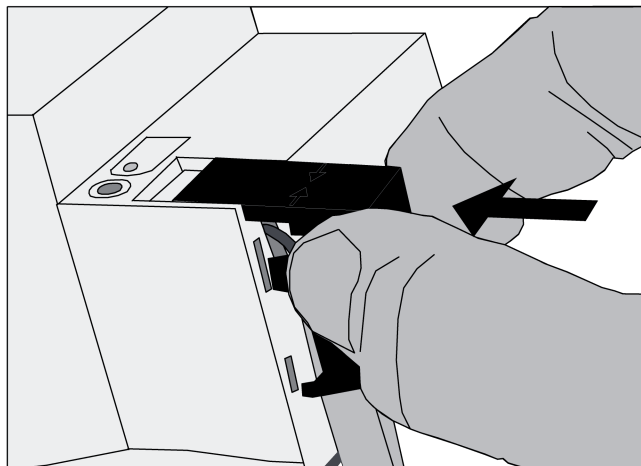

Figure 5: Installing the cover
- Install cover on top of the bus terminal so that it snaps into place (figure 5).